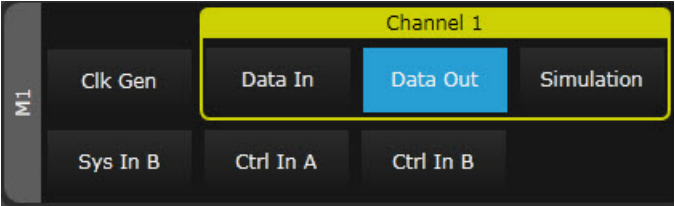

Figure 45 Select Channel 1 DataOut
- 8 Click on **Channel 1 > DataOut** corresponding to the M8041A (M1) as shown in Figure 45 on page -92.